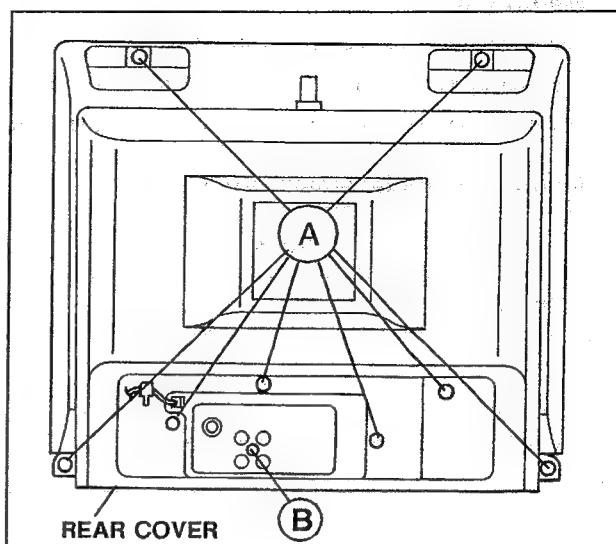

Fig. 1
2. Remove the eight screws marked **A** as shown in Fig. 1.
2. Remove the one screw marked **B** as shown in Fig.1.